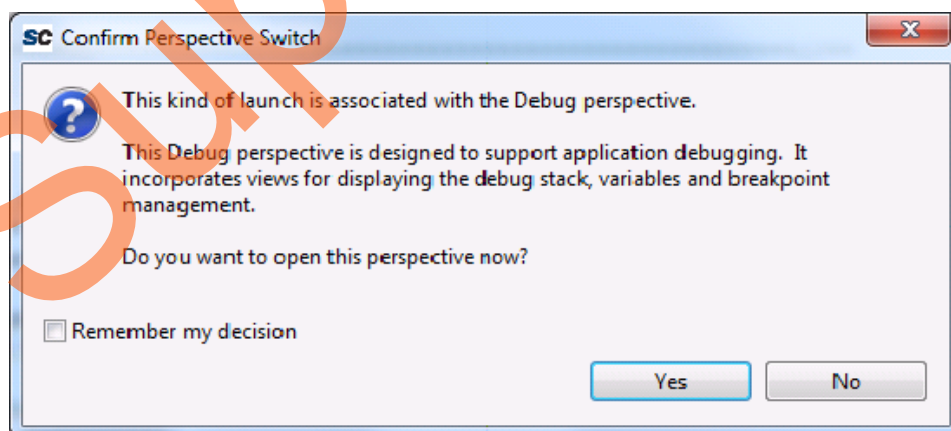

Figure 34 • Confirm Perspective Switch
4. On the **Confirm Perspective Switch** window, click **Yes**, as shown in Figure 34.